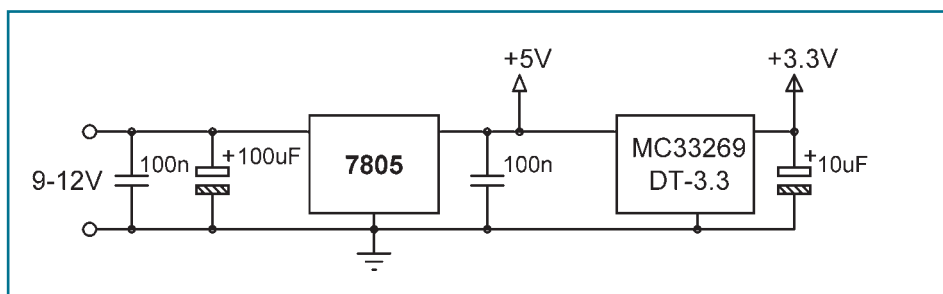

Figure 3b: Power supply of the circuit
- Power supply: As shown in **Figure 3b**, a 7805 type 5V regulator is used to provide power to the circuit. The circuit can be operated from a 9V battery in portable applications.